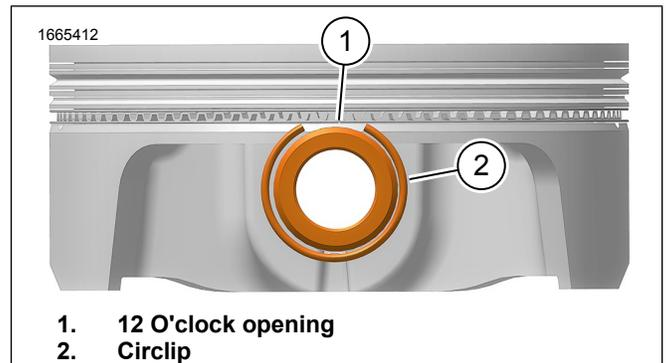

Figure 5. Circlip Position on Piston
- See Figure 5. Make sure that circlip (2) is fully seated in groove.
a. Circlip opening (1) must be at 12 o'clock position.